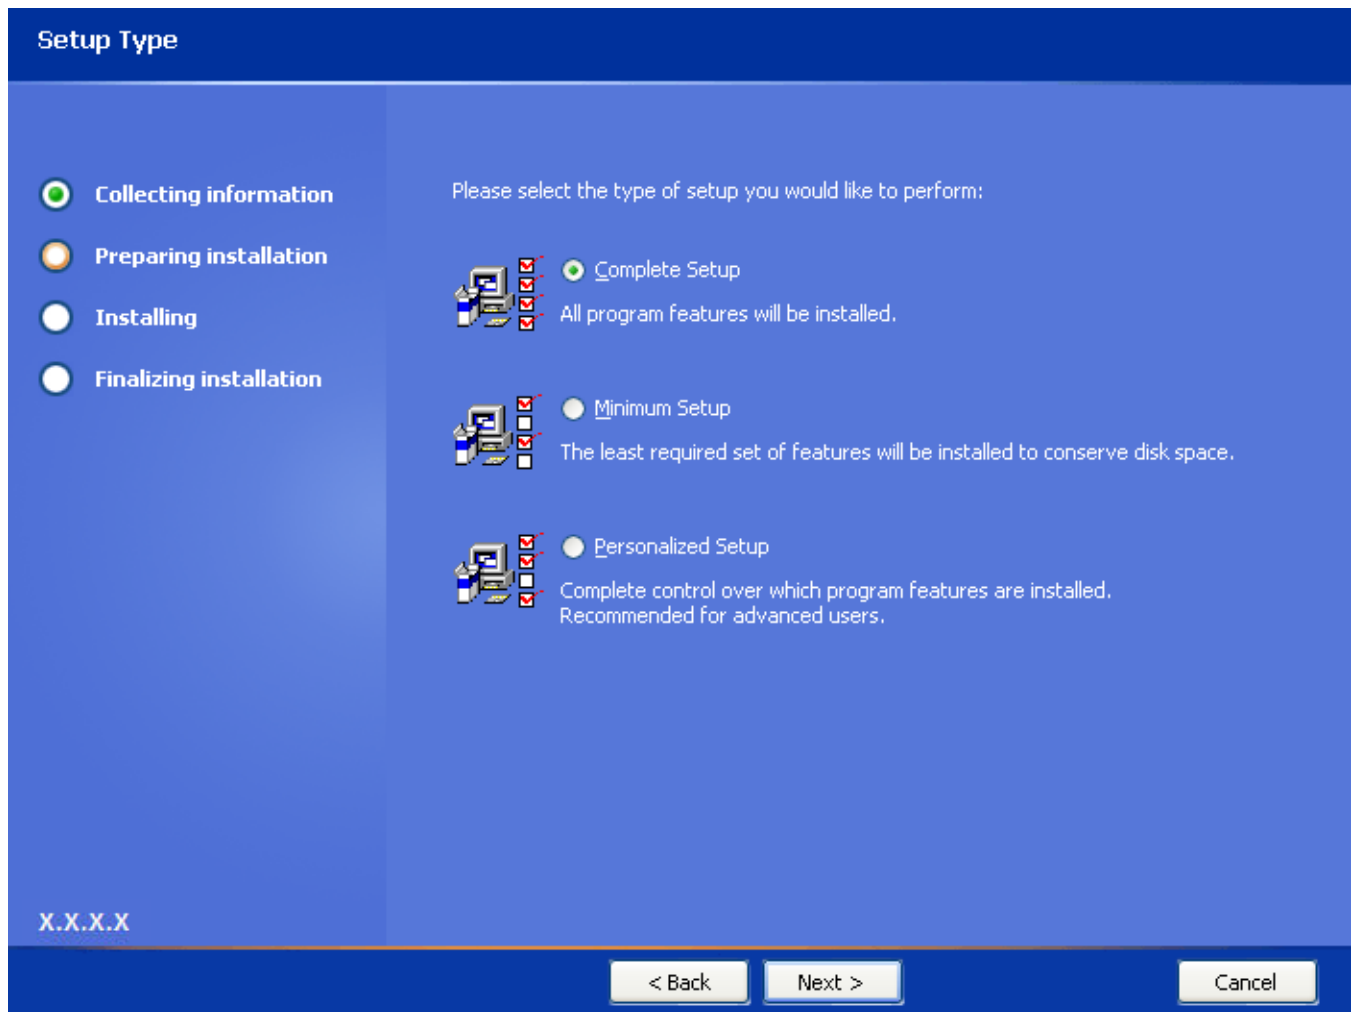

Figure 3 - Setup Type Window
5. Click on the **Next** button. The **Setup Type** screen (Figure 3) appears.